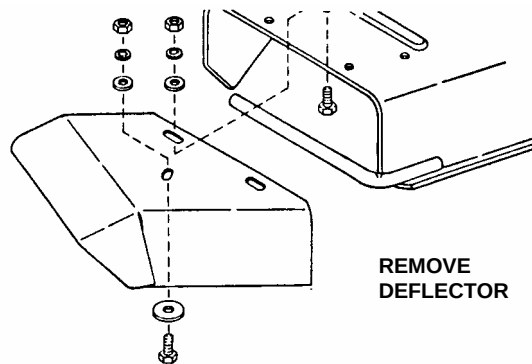

FIGURE 3
1. The discharge deflector has to be removed from the right side of the deck to allow installation of the grass catcher. Save the deflector and attaching hardware for reinstallation later when the catcher components are removed. See Figure 3.